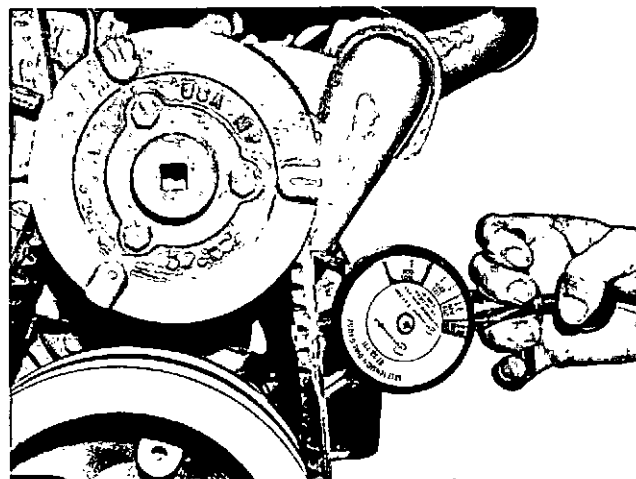

Fig. 5-20. Checking belt tension with ST-968 gauge
1. Tighten belts until a reading of 90 to 110 lb is indicated on ST-968 Belt Tension Gauge. Fig. 5-20.